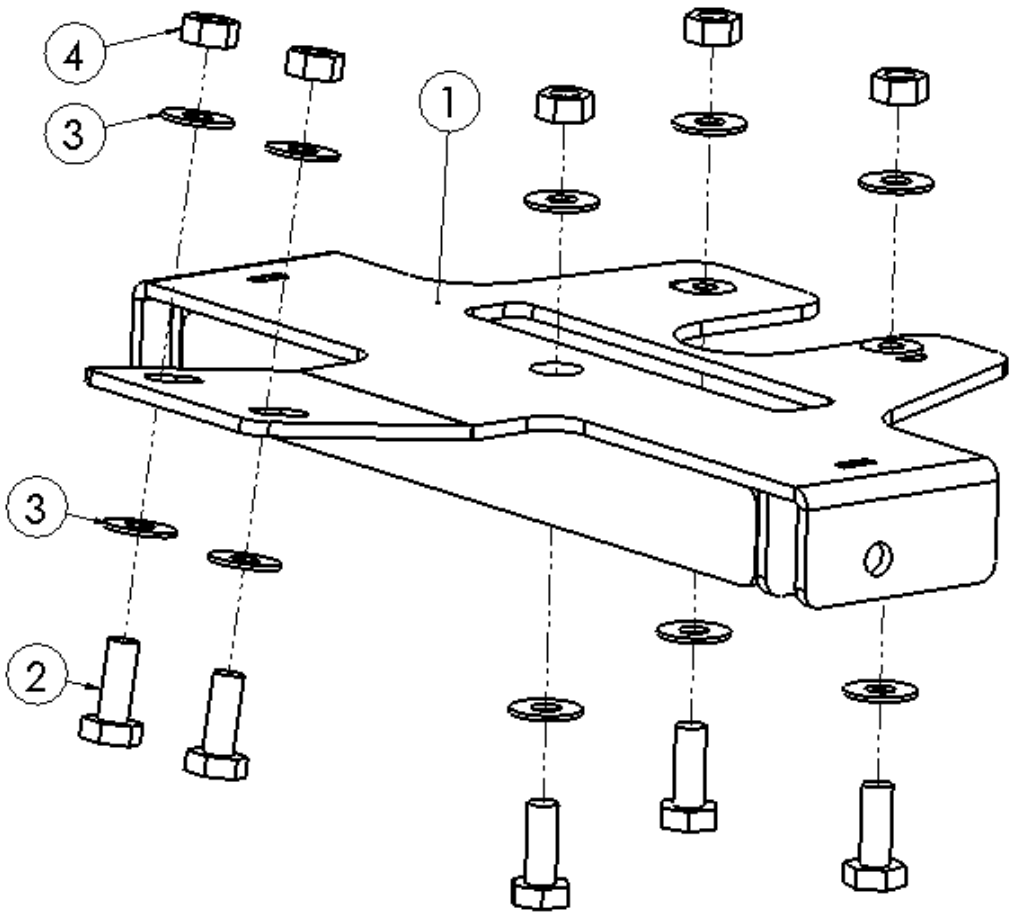
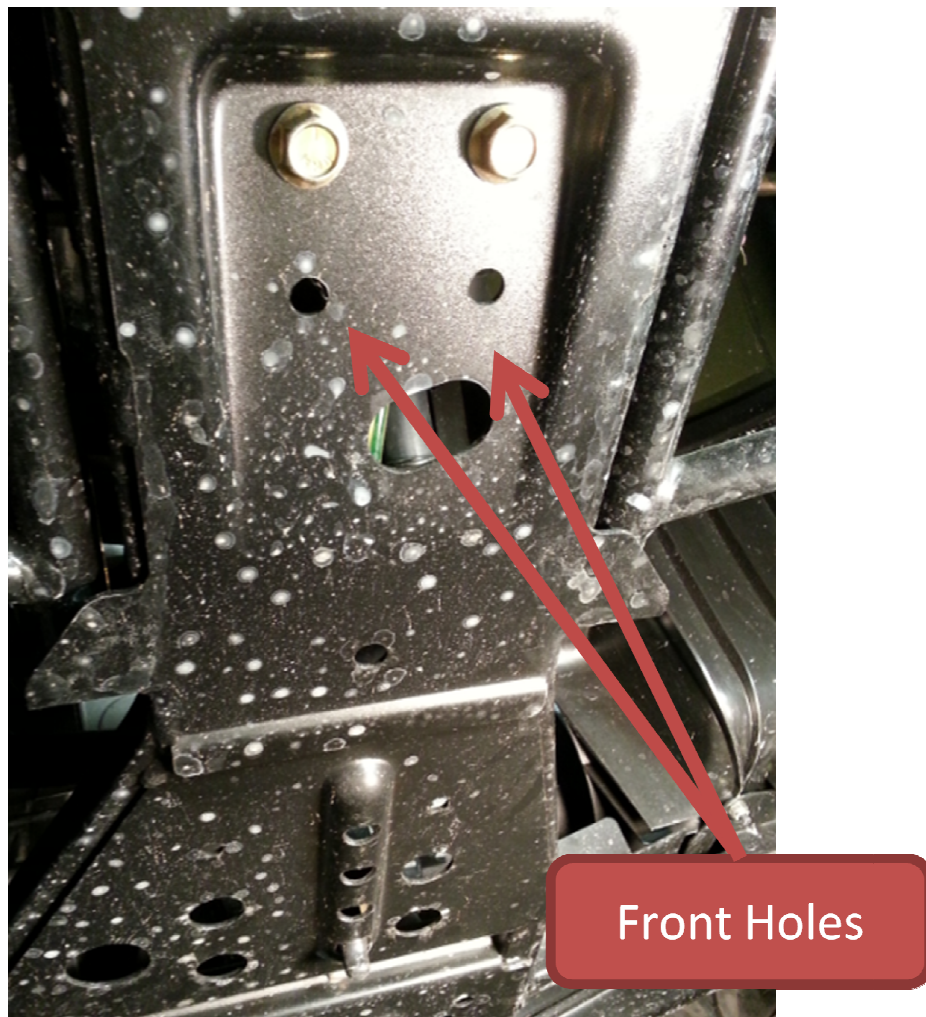
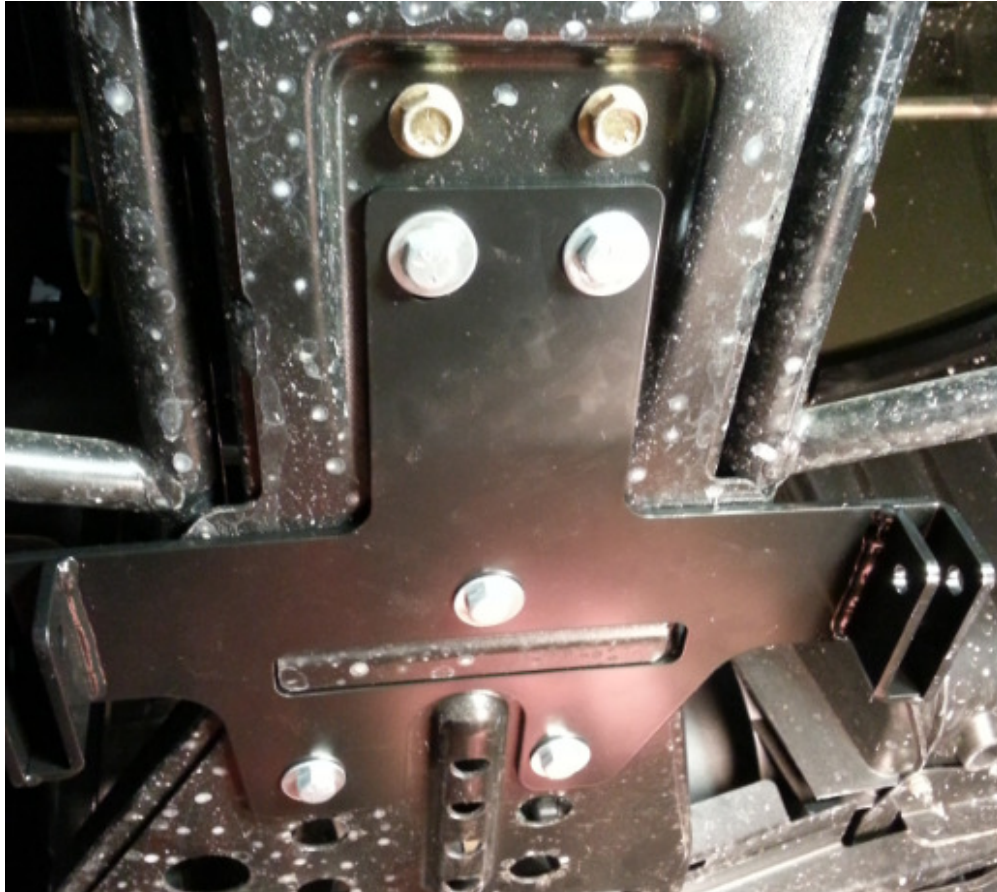

Figure 1
Figure 2
Figure 3
Kit Contents: Please refer to Figure 1
1. Hold the mount up to the underside of the Sportsman with the two tabs facing the ground as seen in (Figure 1). Align the front angled face of the mount with the bolt holes shown in (Figure 2). Use (2) of the 3/8"x 1 1/4" Hex Bolts to secure the front end of the mount to the ATV frame. **Note: Do Not tighten these bolts at this time.**
2. With the two front bolts in place, align the remaining bolts with the predrilled holes in your Sportsman frame. Install the remaining 3/8" Hex Bolts as shown in (Figure 1 and Figure 3).